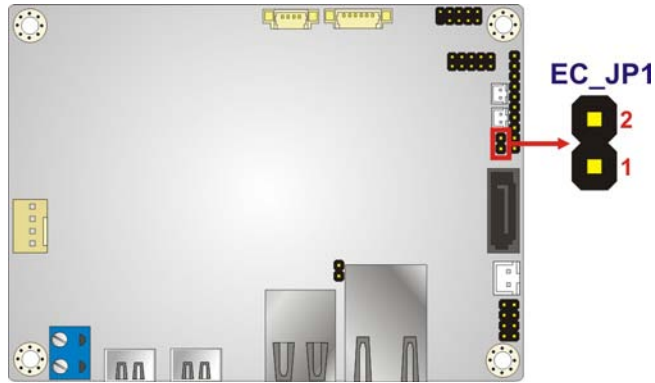

Figure 3-12: EC FW Connector Location
- CN Location: See **Figure 3-12**